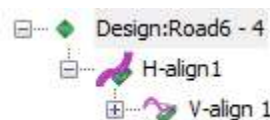

Figure 10-2: Project Explorer organization tree showing the project's design, horizontal alignment, and vertical alignment.
- Click the  button next to *Horizontal Alignment 1** to view the vertical alignment(s) associated with the parent Horizontal Alignment (as shown in Figure 10-2 below).
- Click the  button next to *V-align 1** to expose the *Constraints*, *Borrow/Waste*, and *Results* levels of the tree (as shown in Figure 10-2 above).